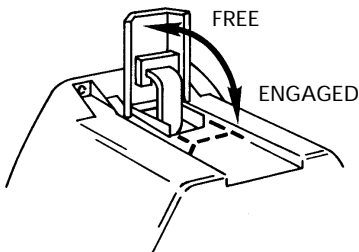

Figure 15
Lift the clutch lever to the "Free" position as shown in Figure 15. If there is a load on the wire rope, the clutch lever may not turn easily. **DO NOT FORCE THE CLUTCH LEVER.** Release tension on the wire rope by joggling out some of the wire rope. Releasing the clutch and pull out the wire rope and secure to anchor or load. Check that there are at least five (5) turns of wire rope left on the drum. Re-engage the drum by returning the clutch lever to the "Engaged" position (see Figure 15).